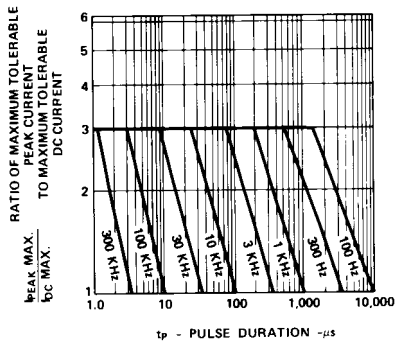

Figure 5. Maximum Tolerable Peak Current vs. Pulse Duration. (IDC MAX as per MAX Ratings).
1. See Figure 5 (HER/Orange), 10 (Yellow), or 15 (Green/Emerald Green) to establish pulsed operating conditions.